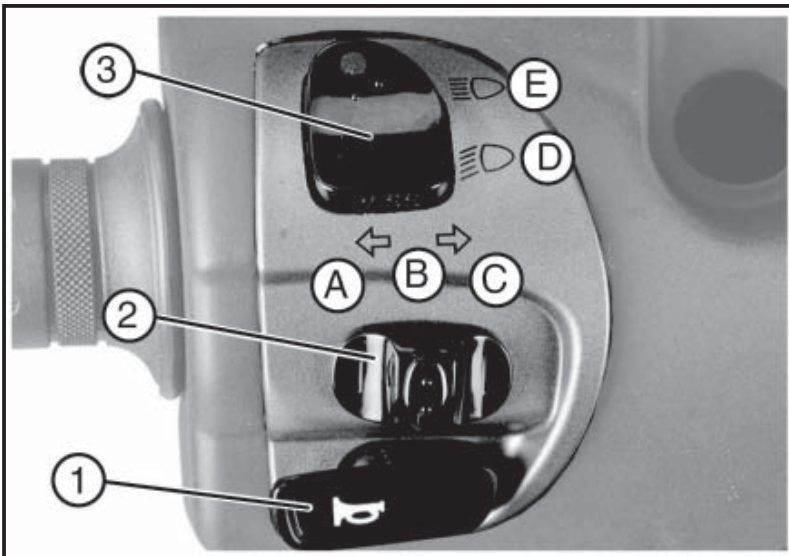

Fig. 02
4.9 COMMANDES AU GUIDON COTE GAUCHE (Fig. 02)